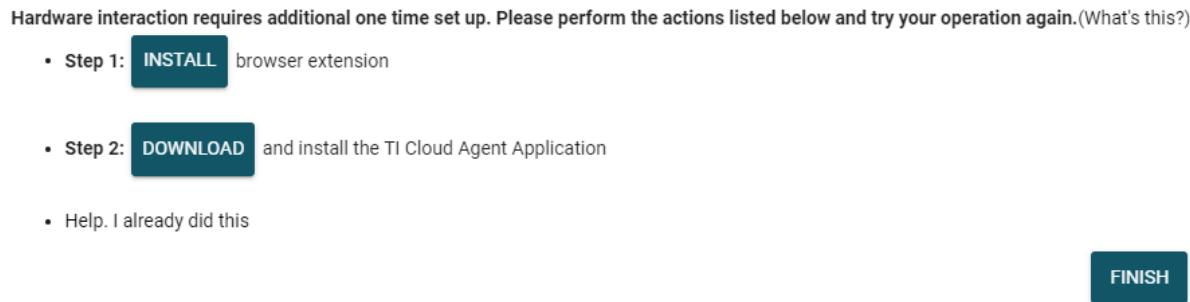

Figure 3-3. TI Cloud Agent
- For first-time GUI Composer setup, follow the prompts to download the *TI Cloud Agent* and browser extension (see Figure 3-3). These prompts appear after closing the *README.md* dialog box.